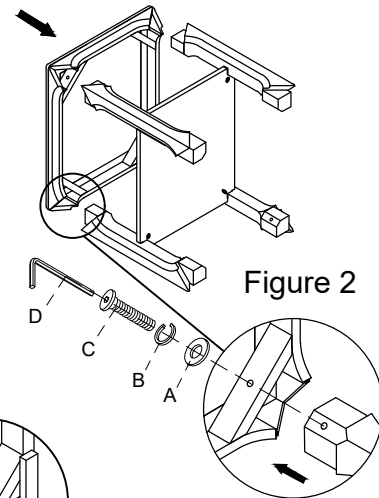

Figure 2
2. Attach four legs to top using Bolt (C), Lock Washer (B) and Flat Washer (A) and tighten with the Allen Wrench (D). As Shown in Figure 2.